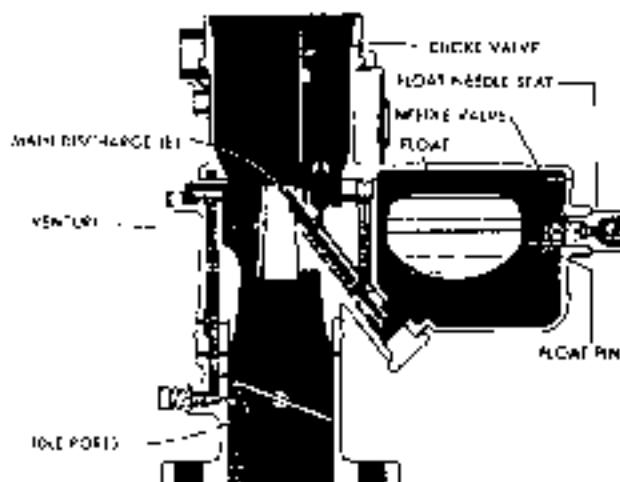

FIG. 246.—FLOAT SYSTEM
- The Stromberg Carburetor used on the Commander employs six systems during the full range of its operation. Figures 246 through 251 name and fully illustrate these systems.